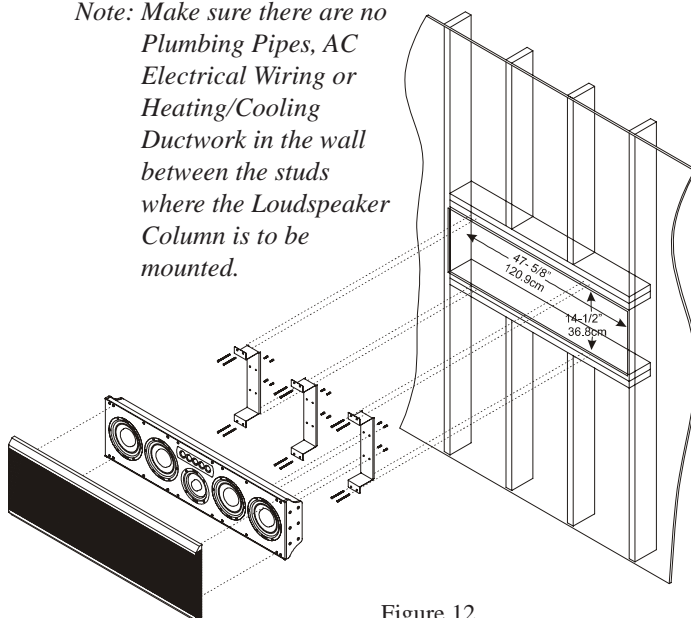

Figure 12
- Use a suitable wall stud finder or metal detector to verify a proper mounting location for the Loudspeaker System before cutting into the wall. The CK27 is designed for attaching to wall headers with 16 inch (40.64cm) centers. Refer to figure 12.